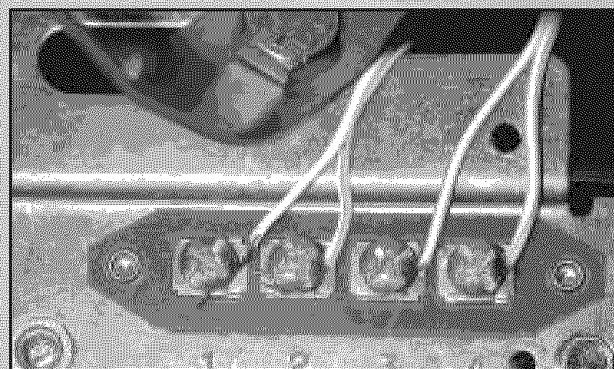
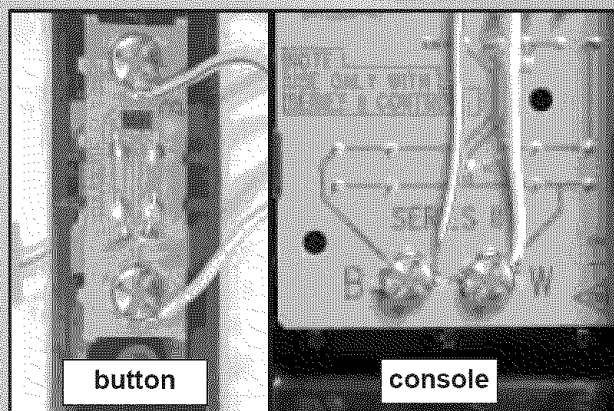

Fig. 4-2
Fig. 4-3
3. Attach wires to terminals. Fig. 4-2, Fig. 4-3.